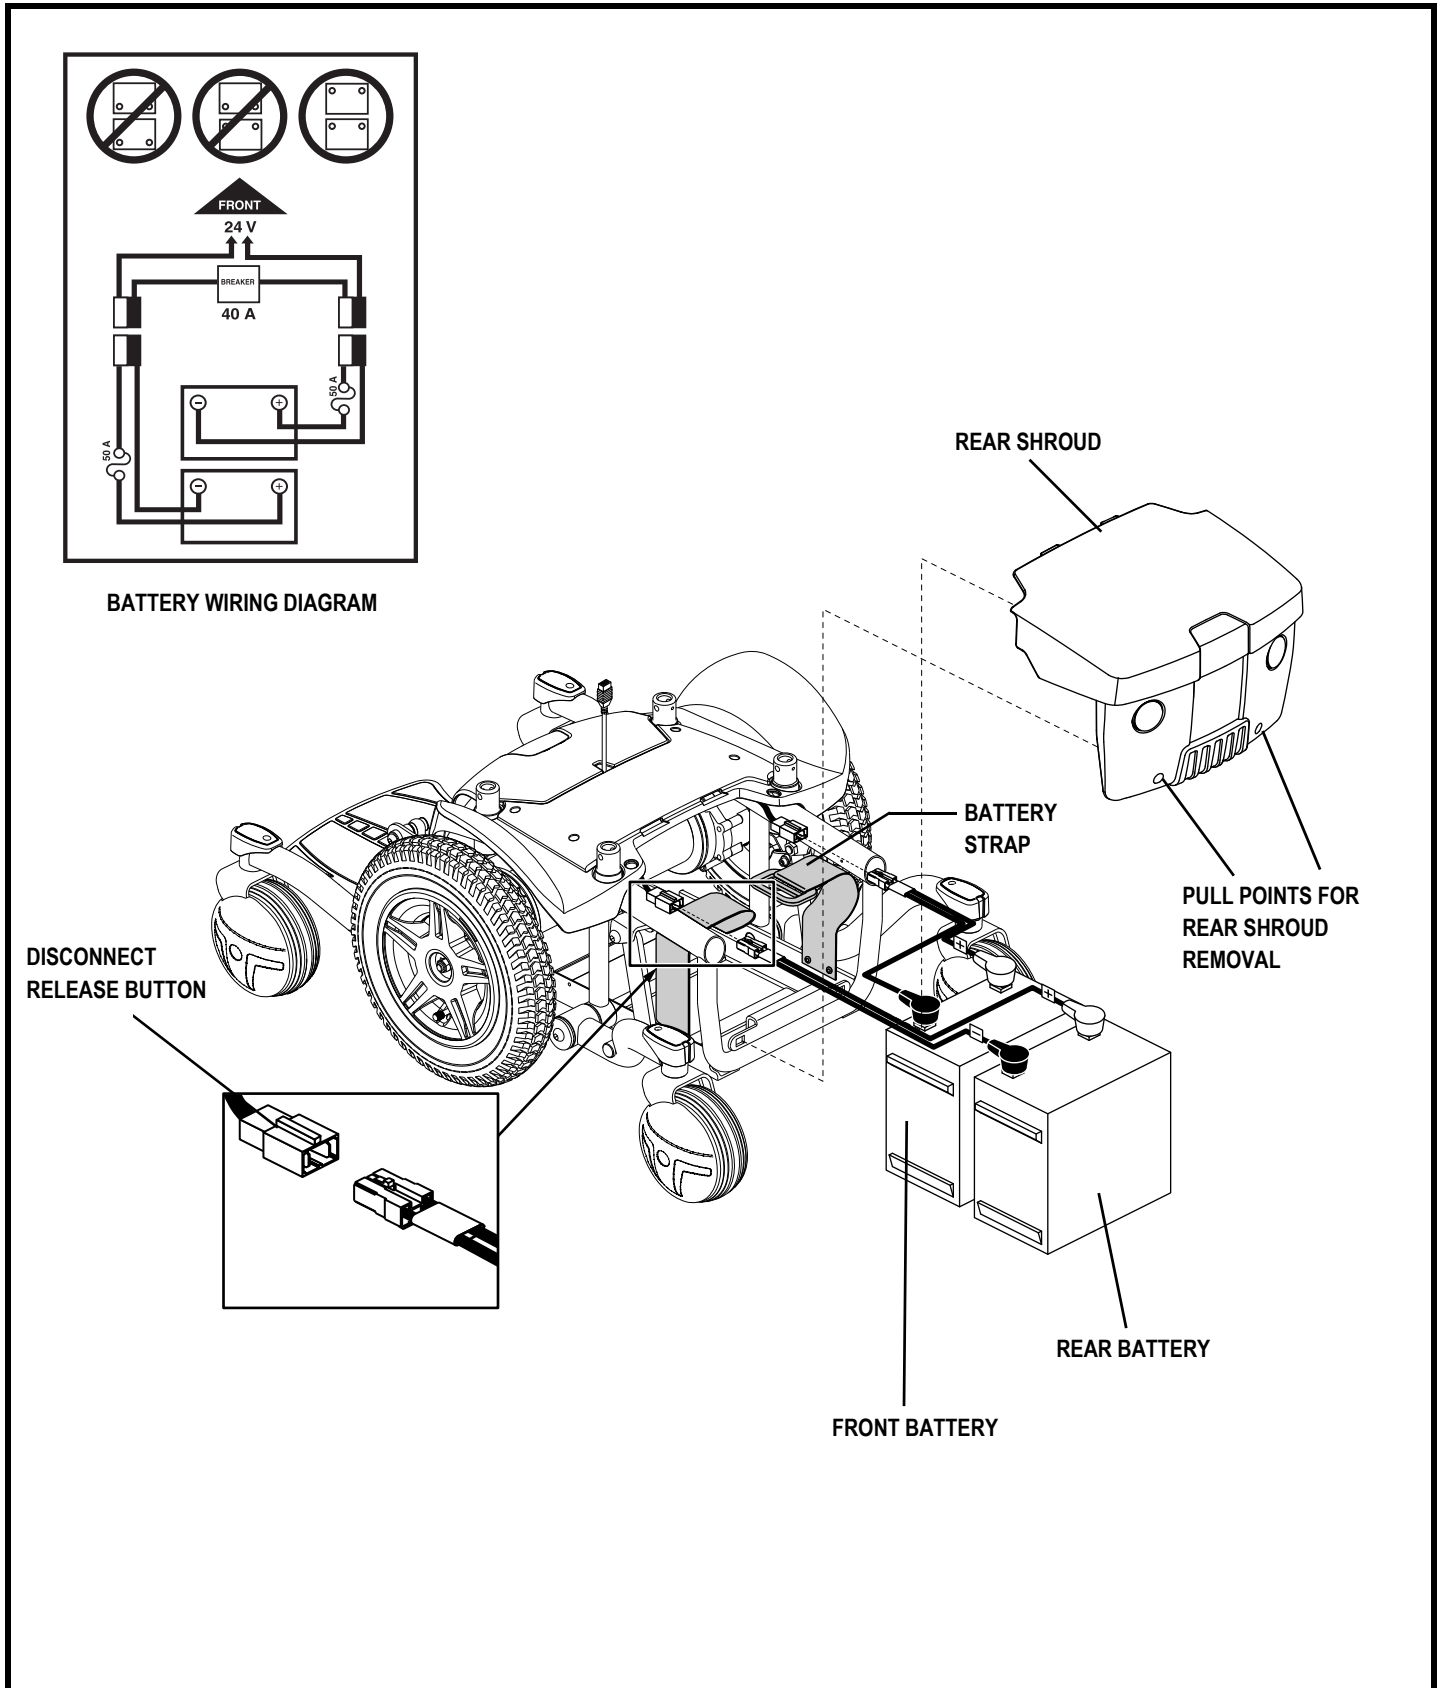

Figure 23. Battery Removal/Installation
A battery wiring diagram is printed on a decal located on the front battery tray. See figure 23. See VI. “Batteries and Charging” for correct battery specifications.
3. Pull to remove the rear shroud. See figure 23.
4. Push down on the disconnect release button and disconnect the rear battery harness from the power base. See figure 23.
7. Push down on the disconnect release button and disconnect the front battery harness from the power base. See figure 23.
10. Install a battery harness onto each new battery according to the battery wiring diagram. See figure 23. Make sure that you connect the red wire to the positive (+) battery terminal and the black wire to the negative (-) battery terminal for each battery.